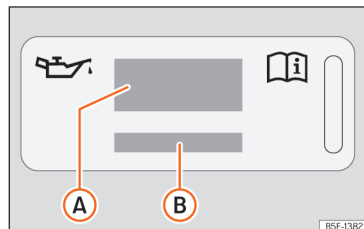
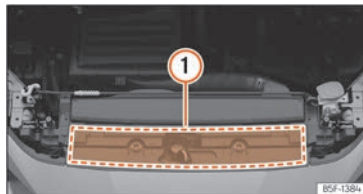

**Fig. 285** In the engine compartment: engine oil label
**Fig. 286** In the engine compartment: area where the engine oil label is located
Key to the »» **Fig. 285**:
If the engine oil has to be topped up, use one of the oils shown on the label »» **Fig. 285**. The label with the prescribed standard is located at the front of the engine compartment »» **Fig. 286** ①. If you use the recommended engine oil, you can top up the oil as often as necessary.